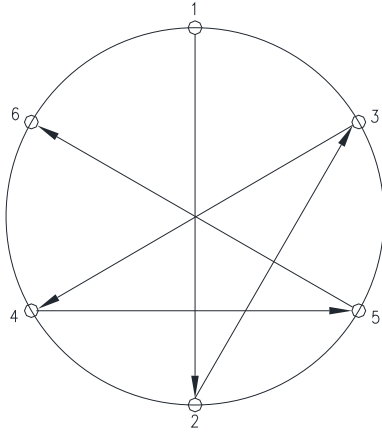

Fig. 9-5 Criss-cross Pattern for Bolted Assemblies
- x Bolts should be systematically tightened starting from the most rigid part of the joint. Follow a crisscross pattern (Ref Fig. 9-5)